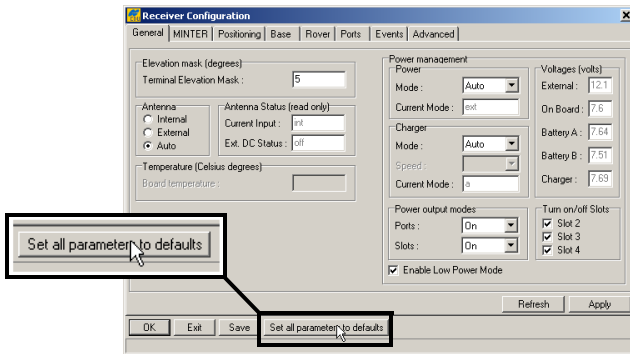

Figure 3-22. Set All Parameters to Defaults
6. Click **Set all parameters to defaults** (Figure 3-22).